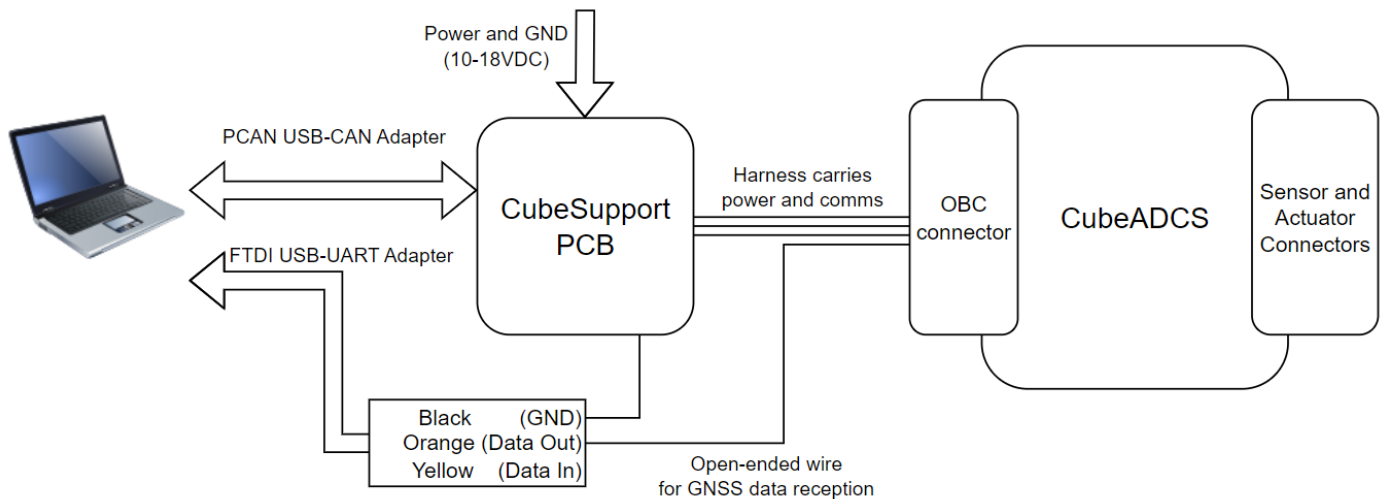
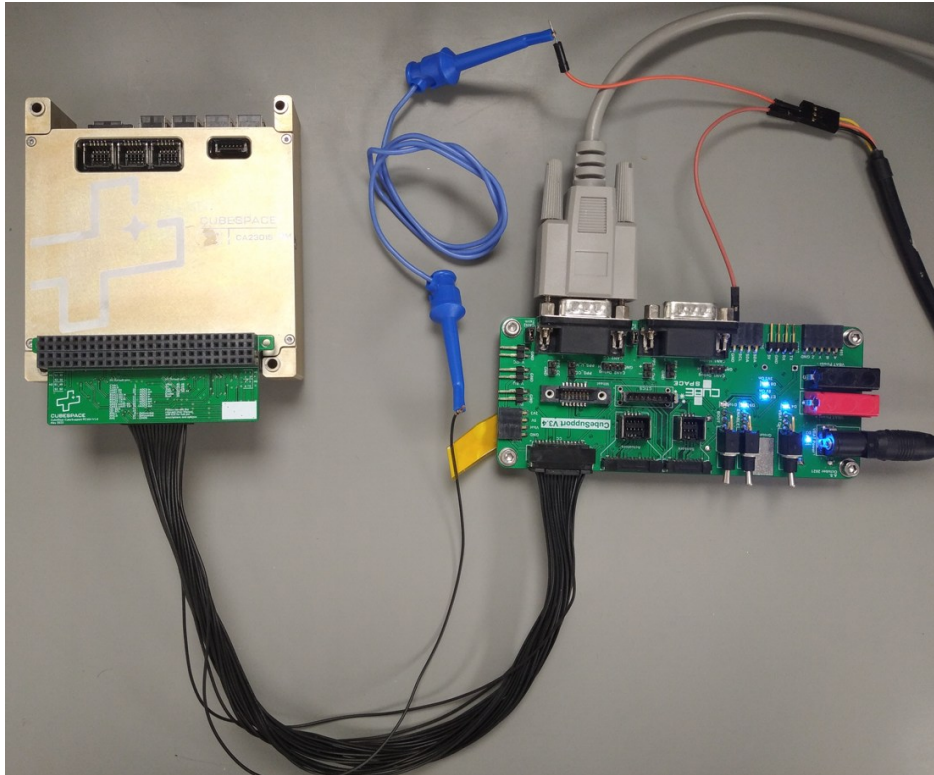

Figure 60: Diagram of GNSS UART interface test.
Figure 61: GNSS UART test setup.
CubeADCS is usually configured to accept GNSS data over the GNSS UART interface. It can be tested by either directly connecting the actual GNSS module, or emulating the module by way of the FTDI UART cable that forms part of the supplied Ground Support Equipment. CubeSpace does not have or supply GNSS modules, and therefore tests the UART interface using the FTDI cable during in-house health checking. The GNSS UART input pin is usually supplied in an open-ended form on the CubeSupport harness. Figure 60 and Figure 61 shows this setup. Note that the client can substitute the FTDI UART cable in these figures with the actual GNSS module.
- 2) Make the required connections as shown in Figure 60 and Figure 61, with the FTDI UART cable replaced by the GNSS module.
- 2) Make the required connections as shown in Figure 60 and Figure 61.